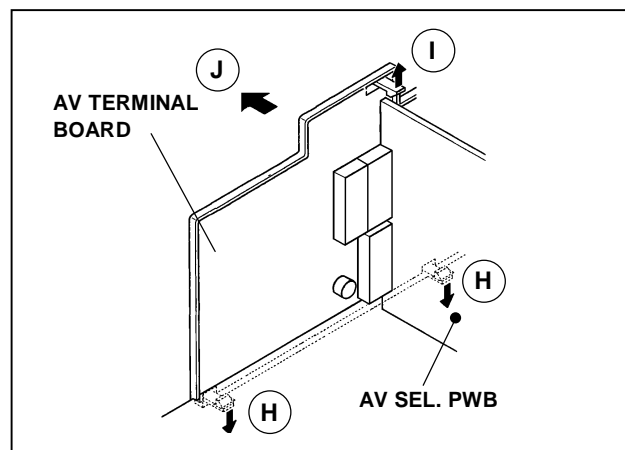

Fig. 3
2. Remove the claws marked "H" under the CHASSIS as shown in Fig. 3.
3. While raising the claw marked "I", remove the top of the AV TERMINAL BOARD slightly in the direction of arrow "J" as shown in Fig. 3.